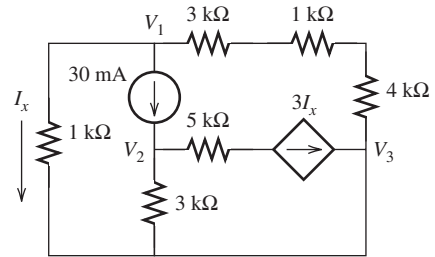

FIGURE P3.40 Circuit for Problem 3.40.
3.40 (H) Find I_x in Figure P3.40.